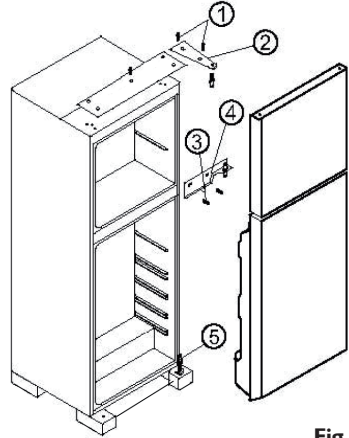

Fig. 1
- Remove the screws to take off the hinge (Fig. 1, no. 1 and 2), remove the upper compartment door and place it in a safe location.
- To remove the lower door, loosen the screws of the central support hinge and take it off. (Fig. 1, no. 3 and 4)
- Lift the lower door from the hinge pin (Fig. 1, no. 5) and place it in a safe location.